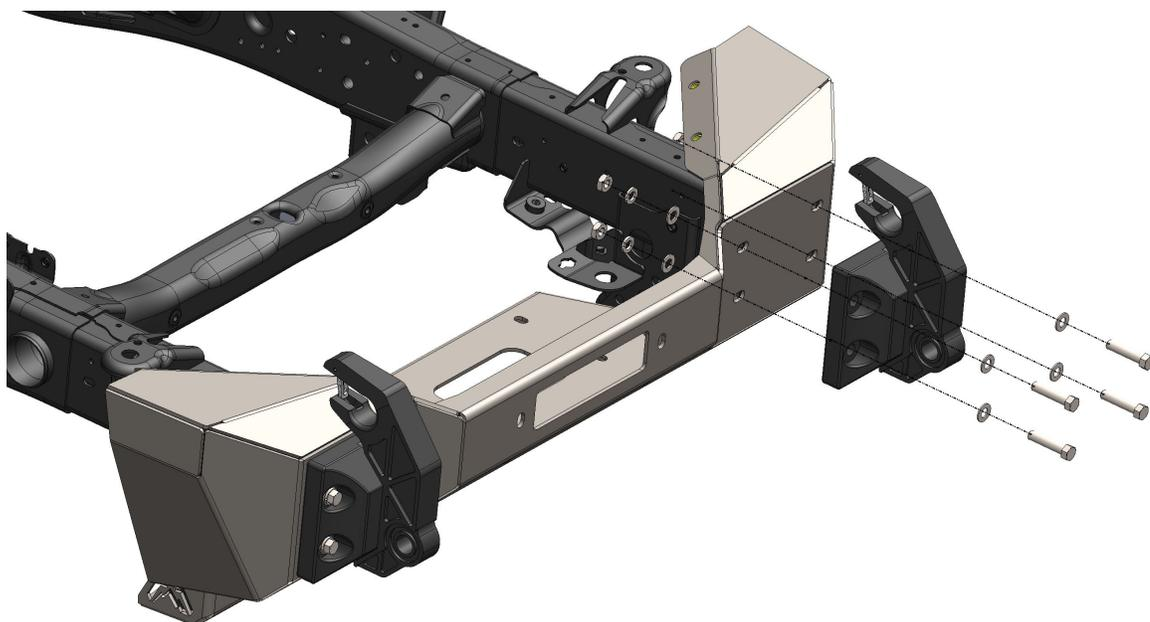

Figure 5
6. Install the winch mount bumper using the mounting hooks from step 5 along with eight (8) 7/16" bolts with washers and nuts. Install your Warn Zeon Platinum winch at this point. Figure 5.